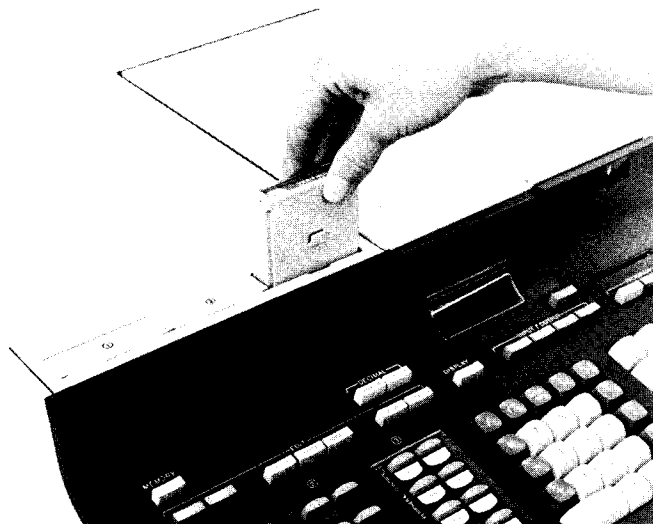

Figure 1-1. PC I Block Installation
2. Position the block over the desired slot (ROM Slot #3 is recommended), such that the 'PERIPHERAL CONTROL' label is readable from the front of the calculator (see Figure 1-1). Push the block straight down until it is firmly seated.